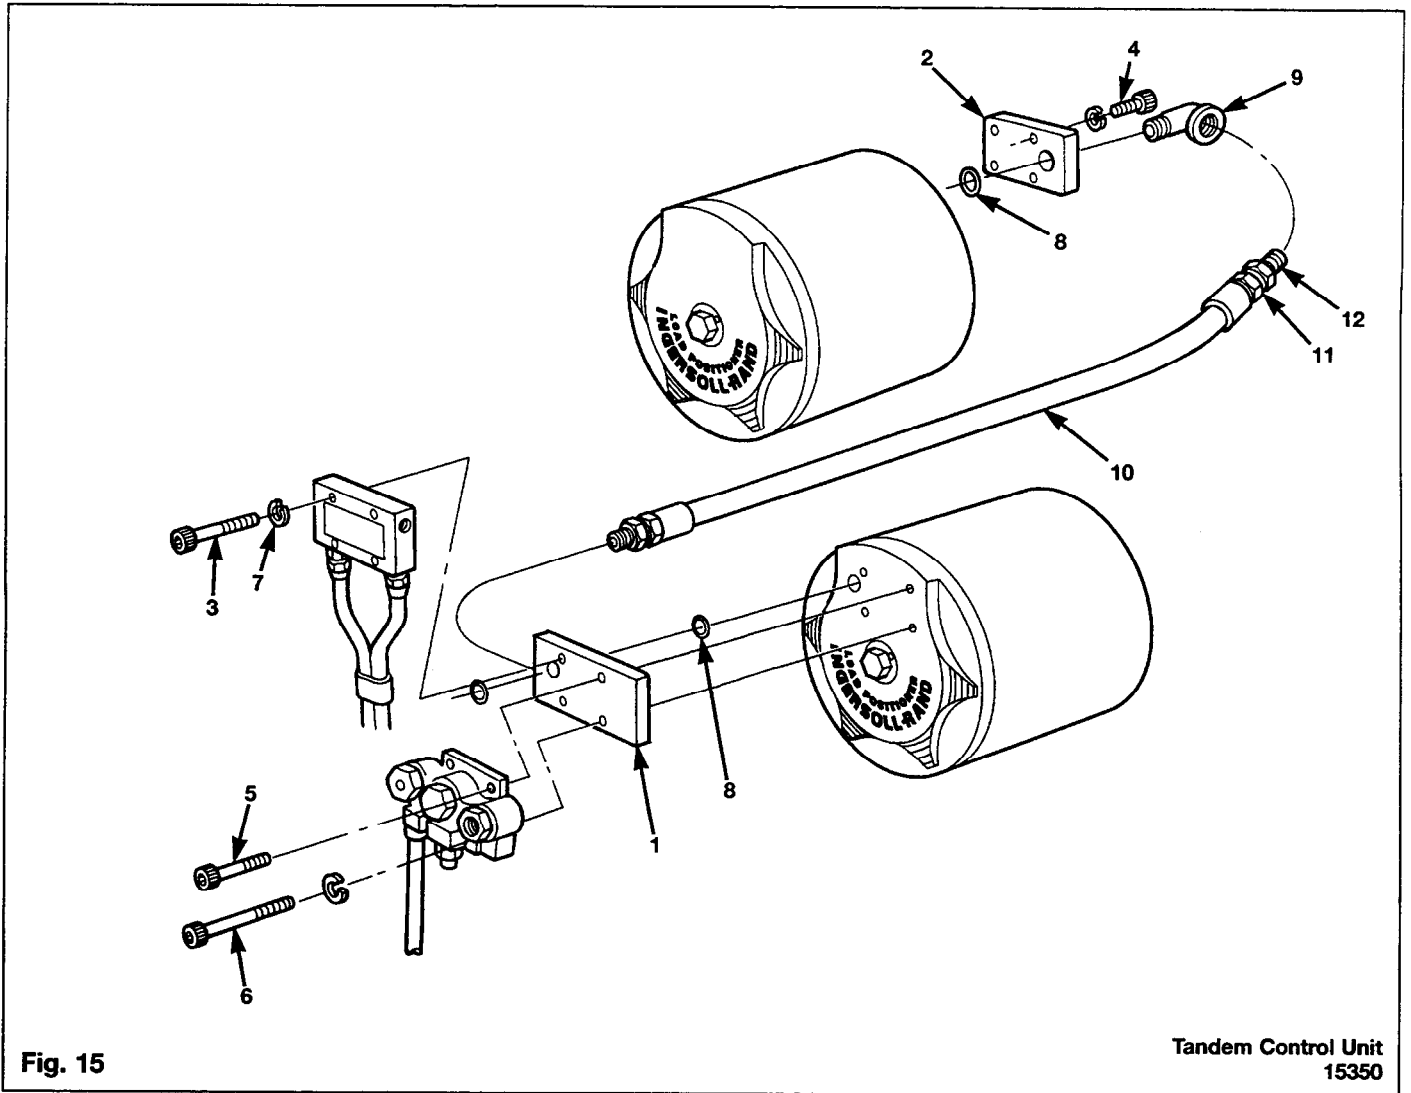

Fig. 15
1. Install master manifold (1) behind (E), (P) or (S) control kit, as shown in illustration.
2. Install slave manifold (2) to 2nd unit.
3. Install tandem hose assembly (10) between master (1) and slave (2) manifolds as shown in figure 15.